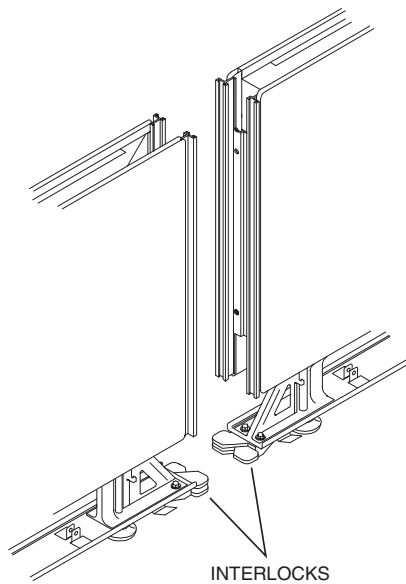
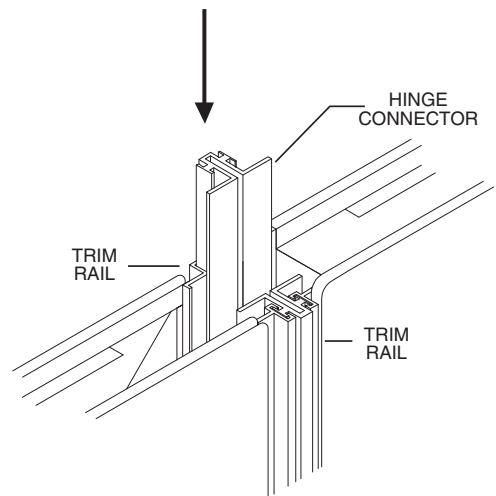

FIG. 1
FIG. 2
1. To attach one panel to the next, bring the panels into position, making sure the interlocks are aligned (Figure 1). Slide the hinge connectors down the grooves provided, making sure the light shields are inside the panel (Figure 2).
2. Position corner post and slide hinge connectors down grooves provided into the trim rail and corner post (Figure 1).
3. Once corner post is in place, the panel junction may be finished by locating the top cap corner piece on top of the corner post with sleeves inserted in adjoining top caps (Figure 2).
1. Position T-post and slide hinge connector down into grooves provided in the trim rail and T-post (Figure 1).
3. Push the sleeves of the T-post cap into the 3 top caps, and snap them in place (Figure 2).